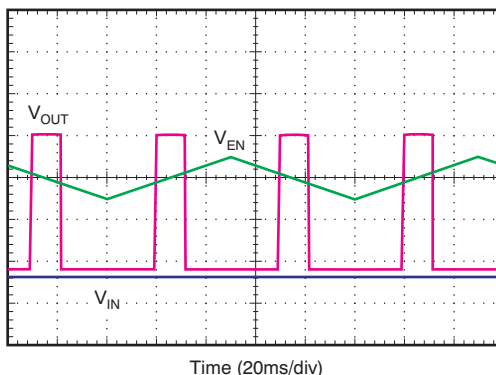

Figure 30. Enable Pin Positive and Negative Threshold
The TPS7A30 provides a dual-polarity enable pin (EN) that turns on the regulator when $|V_{EN}| > 2 \text{ V}$, whether the voltage is positive or negative, as shown in Figure 30.